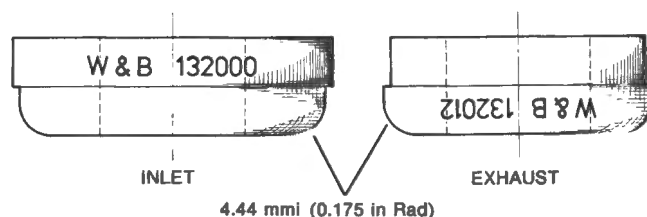

Fig. D-50
- Using a standard workshop insert fitting tool with collar modified as shown in Fig. D-50 carefully press or drift in the insert.